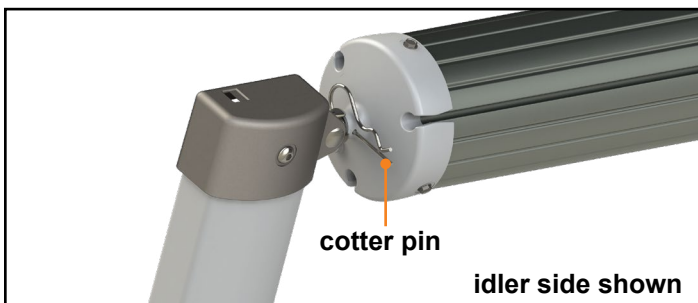

Fig.14
3. Extend the awning out completely by sliding the mount/rafter arms all the way to the top of the outer arm and make sure they lock into place and insert cotter pins (Fig.14).